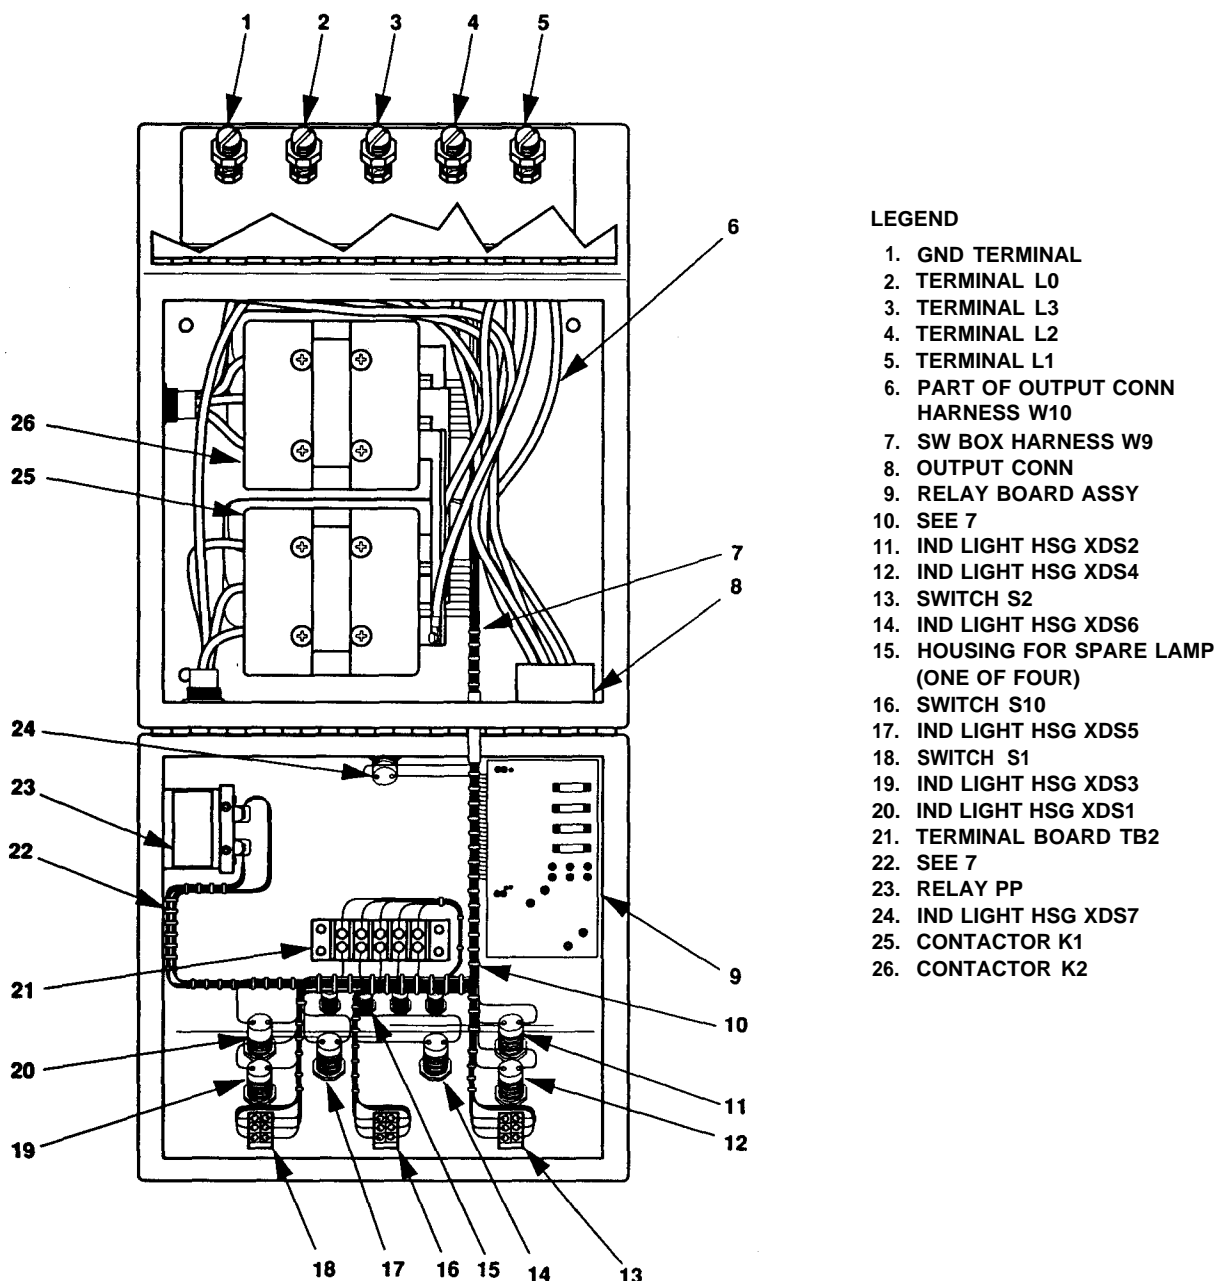

Figure 5-8. Switch Box Components.
Maintenance of switch box assembly consists of testing, removal, and installation of switch box wiring and other switch box components. Figure 5-8, Switch Box Components, is provided as an aid in performing the following maintenance procedures.
2. Measure continuity of switch box harness W9 as listed in table 5-1. Refer to figure 5-8 and wiring diagram (figure FO- 1).
4. If all wires pass continuity check, install relay board assembly (1), four flat washers (4), screws (7), lock washers (3), and screws (2).